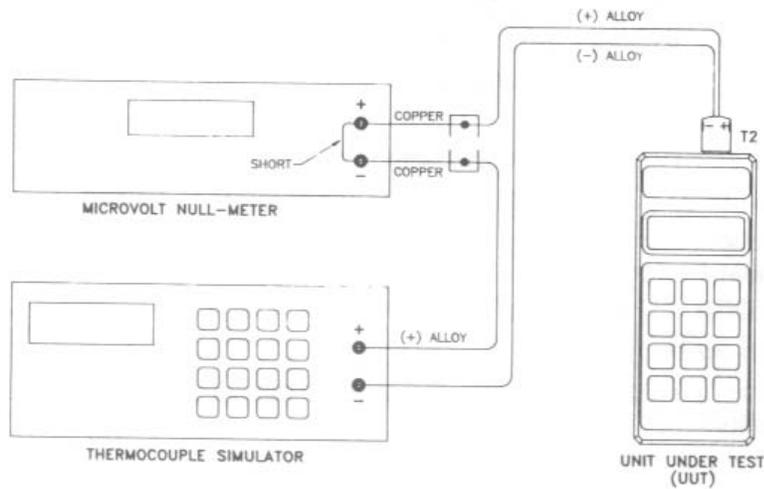

Fig. 2 — Calibration Setup, Meter Mode
6. Connect U.U.T. to test equipment per Figure 2 (page 43) using the K-type calibration cable.